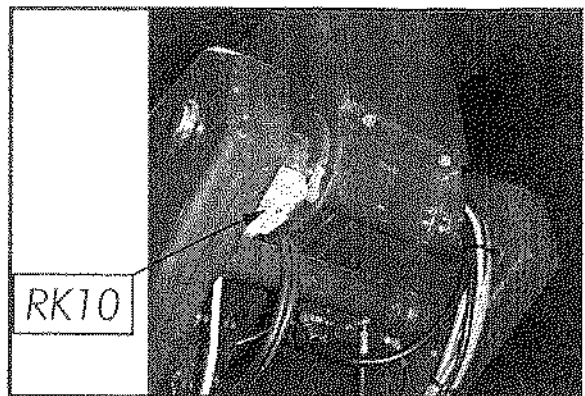

Figure 19-1
- Safety limit switch RK10 for raising the booms is located at the upper edge of the turntable on the right side of the boom seen from the platform (figure 19-1).